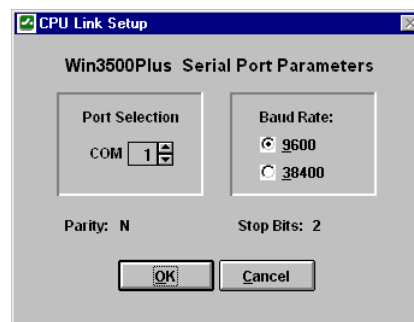

Figure 4 CPU Link Setup Window
Open the **System** menu and select **Communications** to display the CPU LINK SETUP window (Figure 4).
1. Open the **System** menu and select **Communications**. When the CPU LINK SETUP window (Figure 4 on page 21) is displayed, note the current port selection (for use in step 5 below), select the serial port on the computer that will be used to temporarily connect to the remote modem, and then click the **OK** button.
5. Open the **System** menu and select **Communications**. When the CPU LINK SETUP window (Figure 4 on page 21) is displayed, return the port selection to its original state (before the change in Step 1 was made), and then click the **OK** button.